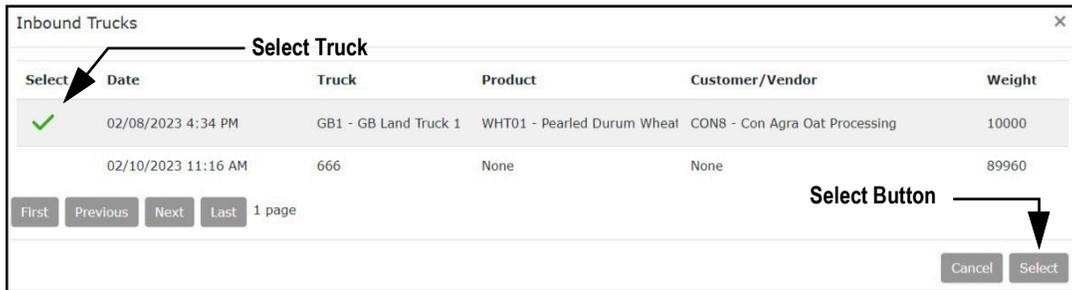

Figure 9-10. Inbound Trucks Window
4. The Inbound Trucks window displays (see Figure 9-10 on page 137).